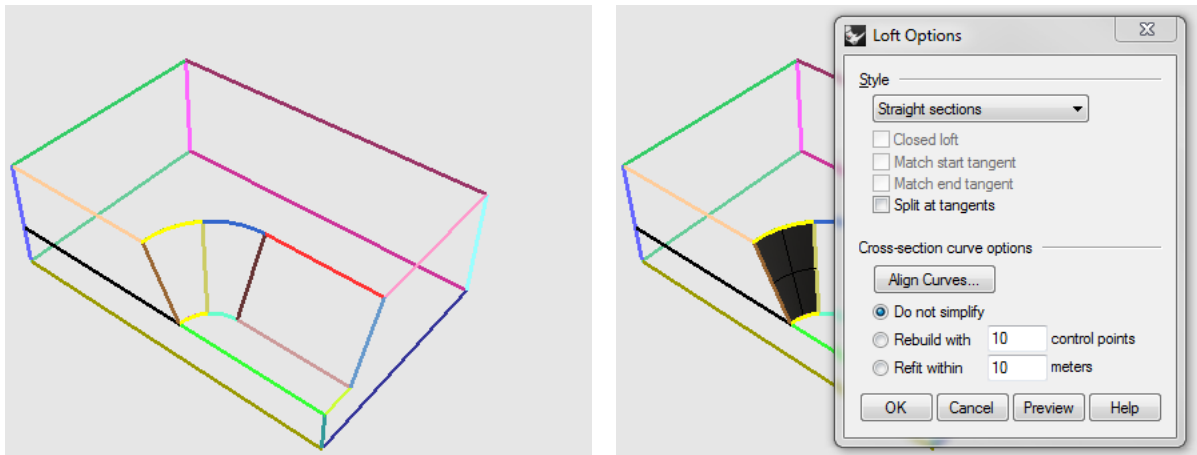

Figure 64: Building the first surface for the first solid
5. Select the **two** arcs you have just built (highlighted in Figure 64, left), select **Surface|Loft**, use the **settings** shown Figure 64, right, and click **OK** to build a lofted **surface** between the two curves (Figure 64, right).